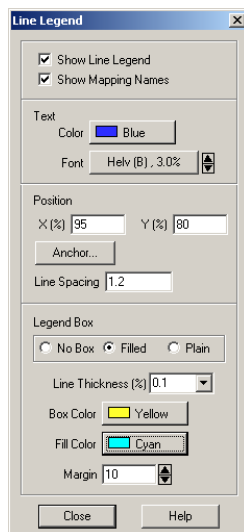

Figure 8-37. The Line Legend dialog.
1. From the Plot menu, choose Line Legend. The Line Legend dialog appears, as shown in Figure 8-37.